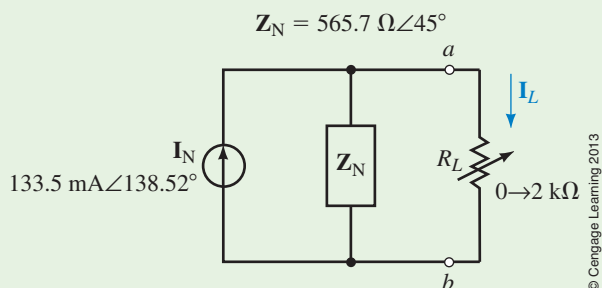

FIGURE 20-35
Step 5: The resulting Norton equivalent circuit is shown in Figure 20-35.